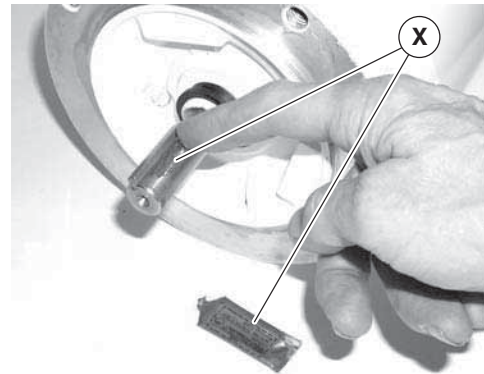

Figure 18
- Apply anti-seize compound (Figure 18, item X) to motor shaft.